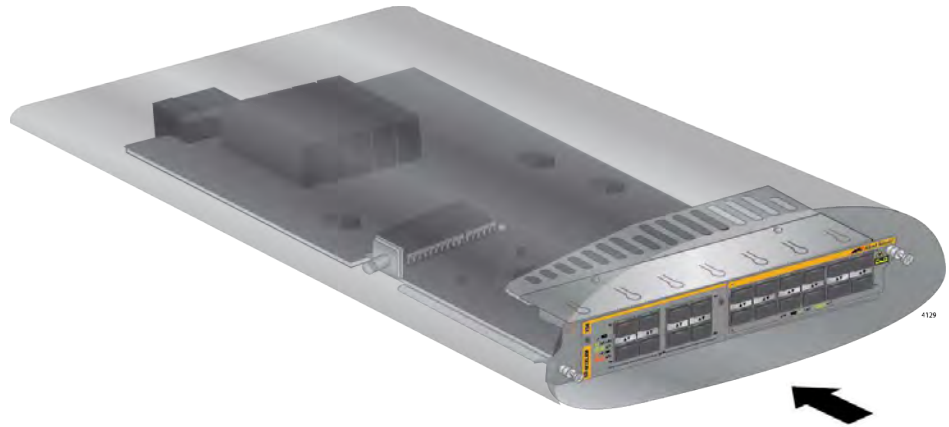

Figure 89. Returning the Line Card to its Anti-static Bag
13. If you are not installing the line card in the chassis now, return it to its anti-static bag and shipping container to protect it from damage. Refer to Figure 89 on page 161.